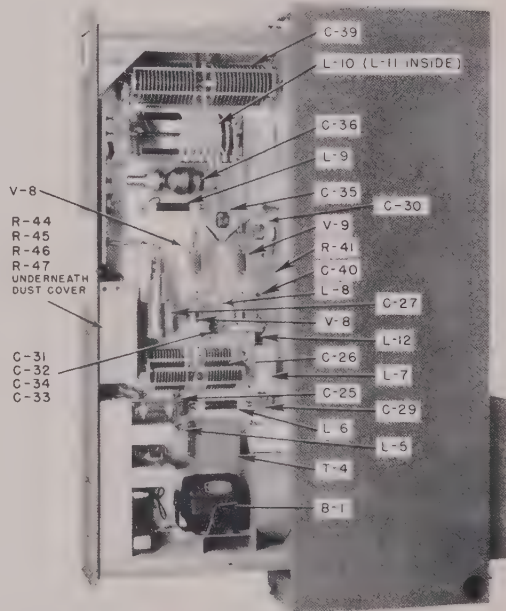

Figure 28. Radio Transmitter Model 96D, view of interior slide
f. Three sets of R.F. choke L6, L9, L12) are required to cover all frequencies from 2.0 to 26.0 mc. Each set is composed of three identical chokes used as 3rd amplifier plate choke, final amplifier plate choke, and final amplifier grid choke, respectively. These chokes fit into fuse clips as shown in Fig. 28. The chokes are distinguished by the number of turns and the wire size. The 2.0 to 6.5 mc chokes have 410 turns of No. 28 enameled wire. The 6.5 to 18.0 mc chokes; 115 turns of No. 20 enameled wire; the 18.0 to 26.0 mc chokes, 60 turns of No. 18 enameled wire. The correct chokes, as determined by the desired frequency of operation and column 6 of Table I, may now be installed in their respective fuse type clips (fig. 28).
g. Mount the correct third amplifier plate coil (L-7), as determined by the desired frequency of operation and column 7 of table I, in place (fig. 28). Mount the coil on the stand-off insulators by means of the four mounting holes.